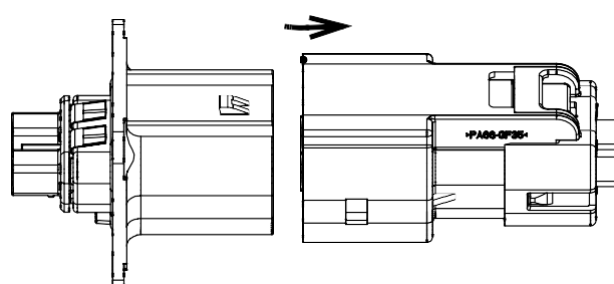

Figure 19
3. Fully depress the thumb actuation pad on the floating latch (red). See Figure 19, Detail A.
4. Pull the plug connector until it is fully separated from the header assembly. See Figure 19, Detail B.